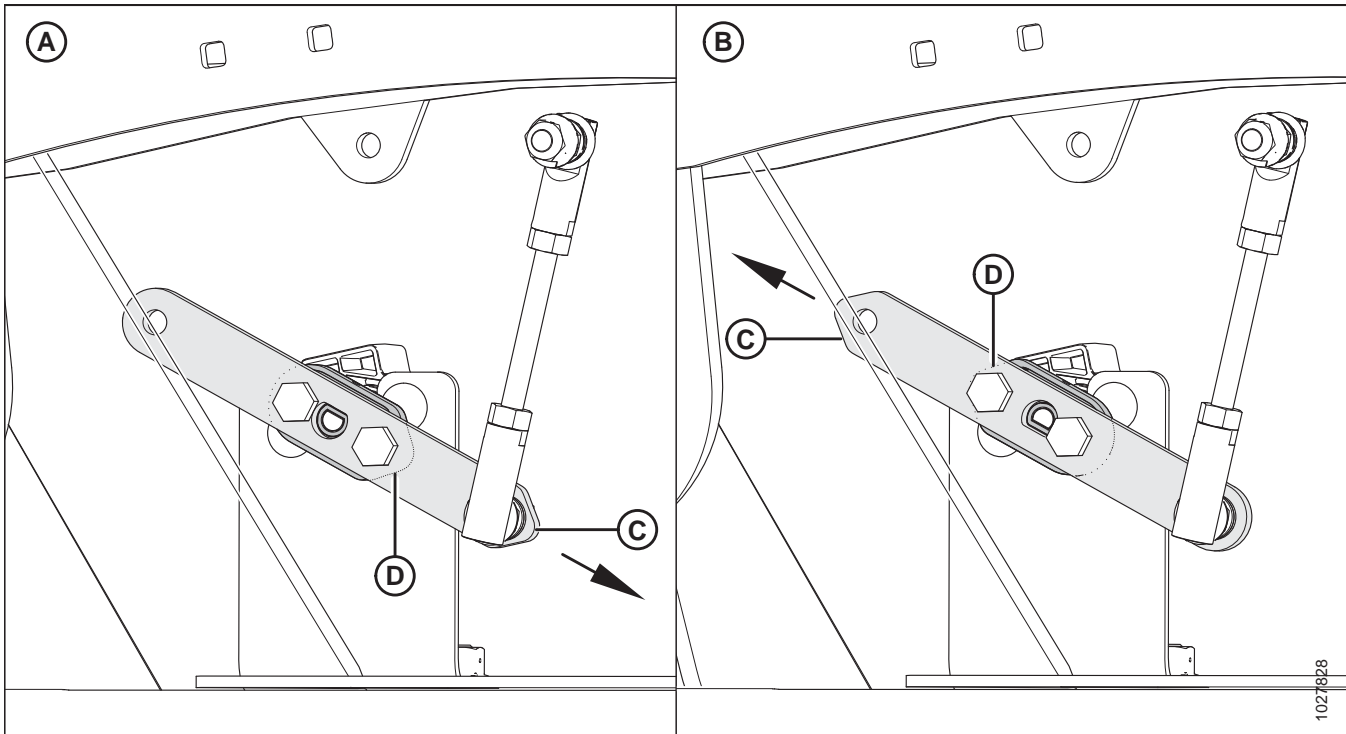

Figure 3.116: Sensor Arm/Pointer Configurations
2. Check that sensor arm (C) and pointer (D) are configured properly for your machine. Refer to Figure 3.116, page 110.